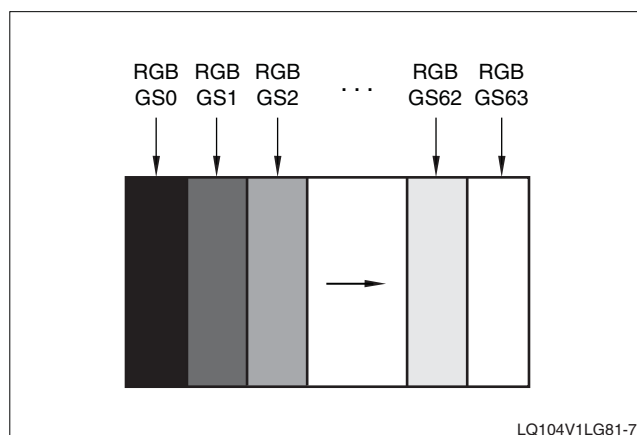

Figure 7. Power Dissipation Test Pattern
2. Power dissipation pattern is 64-gray bar pattern. See Figure 7. $V_{CC} = +3.3\text{ V}$, $f_{ck} = 25.175\text{ MHz}$, $T_a = 25^\circ\text{C}$